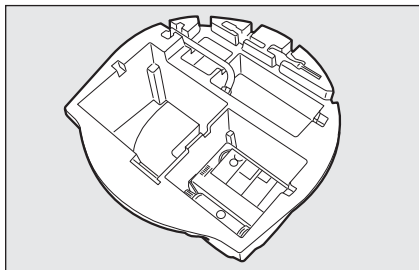

fig. 4
- Take out the tool container **fig. 4**;